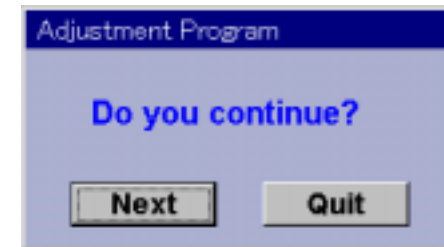

Figure 5-17. Exit Window
- To exit or continue the program, refer to Figure 5-17. “Exit Window” on page -131.
- To exit or continue the program, click **Quit** on the lower left. Refer to Figure 5-17. "Exit Window" on page -131.
- To exit or continue the program, click **Quit** on the lower left. Refer to Figure 5-17. “Exit Window” on page -131.
5. To exit or continue the program, click **Quit** on the lower left. Refer to Figure 5-17. "Exit Window" on page -131.
5. To exit or continue the program, click **Quit** on the lower left. Refer to Figure 5-17. “Exit Window” on page -131.